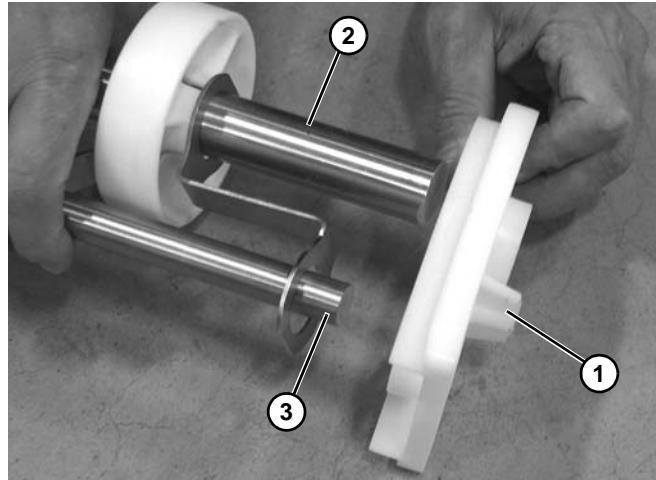

Figure 69
6. Remove tracking plate (**Figure 69, item 1**) from puck rod (**Figure 69, item 2**) and idler shaft (**Figure 69, item 3**).